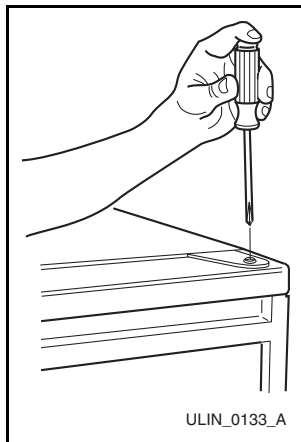

Figure 13
2. Remove the top hinge pivot pin with a Phillips screwdriver (**Figure 13**) and lift door off bottom hinge pin. Be careful not to lose the door closer insert sets.